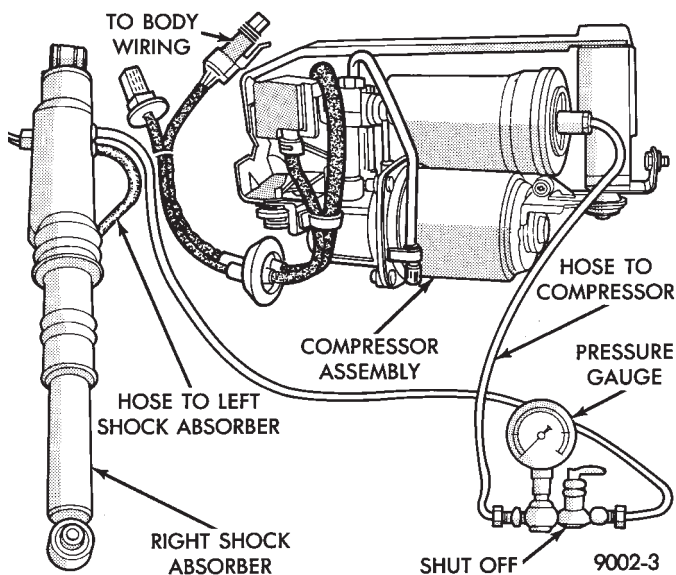

Fig. 5 Pressure Gauge Installed in System
AIR CHECK, RESIDUAL (FIG. 5).
(1) Remove the air line from the dryer and right shock absorber. Attach a piece of bulk nylon tubing to one side of a Pressure Gauge (0-300 psi), and to the right shock absorber (Fig. 5).
(2) Attach another piece of nylon tubing from the dryer (compressor) to other side of the pressure gauge.
(1) Disconnect the compressor motor wiring harness connector.
(2) Disconnect air line between dryer and right shock absorber.
(3) Connect an air pressure gauge into the system (Fig. 5).